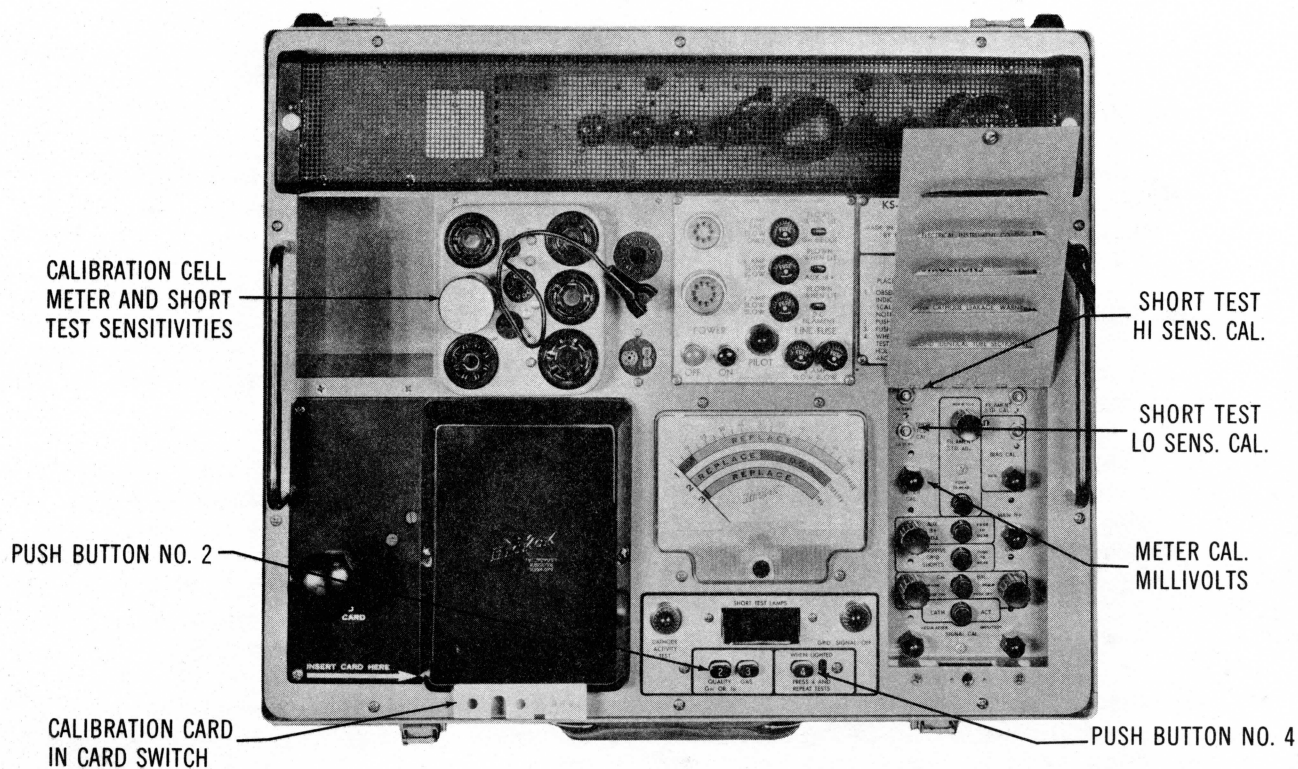

Figure 4 - Meter Sensitivity
- a. Insert calibration card #1, METER, into the switch. Plug the calibration cell into the octal test socket, see figure 4. (The calibration cell is normally stored in the cover of the tube tester.) The left short lamp will glow.